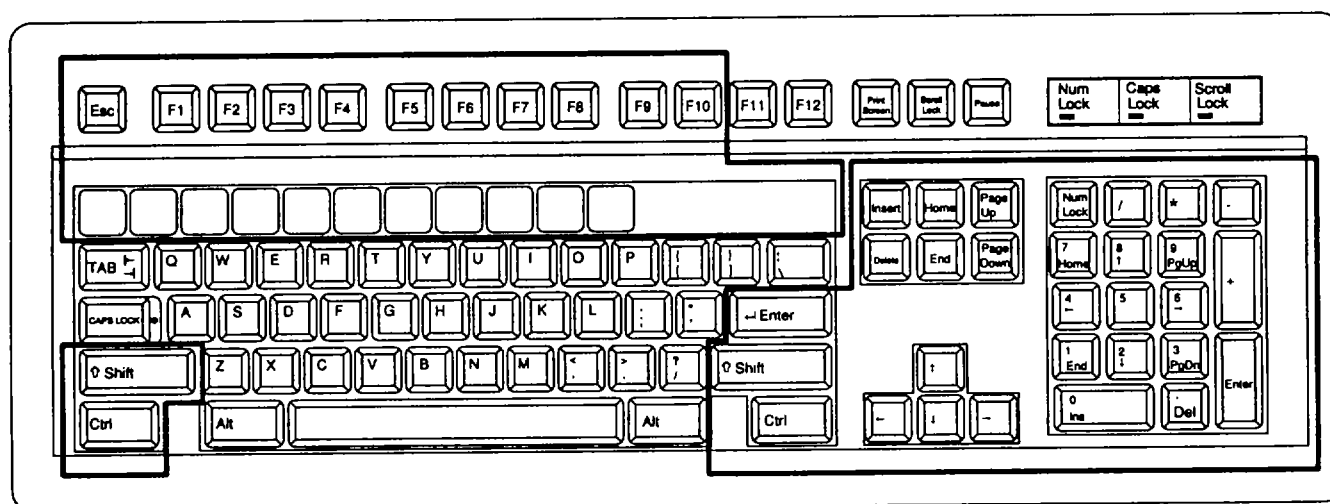

Figure 1-3. Keyboard Setup (Typical).
1.15.1 Special Features. The AMG has been designed to provide easy operation and uses the color scheme provided in table 1-3. The color codes allow visual detection of status changes or alarms. Designated features are provided in table 1-4. In addition, if there is no area selected, the AMG software automatically selects an area that has a status change and displays the information on the command line. The + and - (figure 1-3) keys can be used to select either the next area (+) or previous area (-).